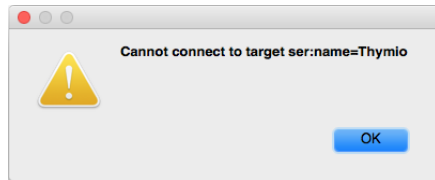
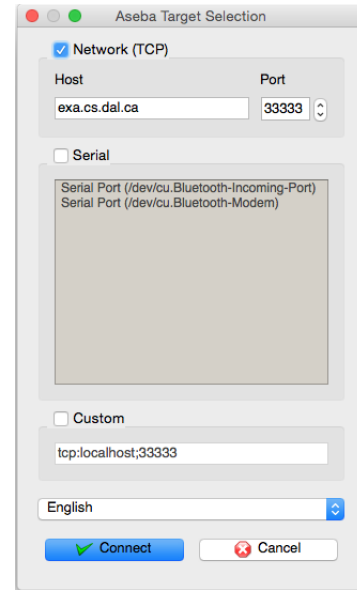

Figure 11: The Thymio-II is not connected.
Figure 12: Select **Network (TCP)**.
1. Run Aseba Studio or Studio for Thymio II. You may see the dialog such as the one in Figure 11. In this case click OK. You will then see the connection dialog box such as the one in Figure 12